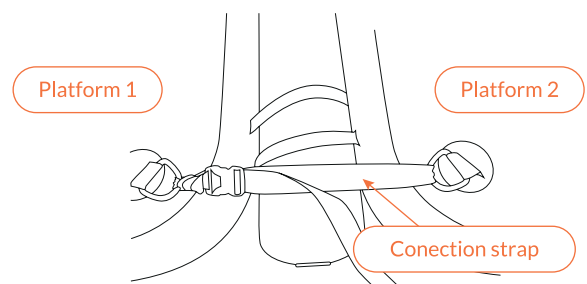

Fig 53 – Connection strap using D-rings between Platforms
5. Secure the Platforms to each other using the connection straps and the D-Rings. Feed the connection straps through the opposite D-Rings of each Platform and secure on both sides of the Air Toggle connection (Fig 53).